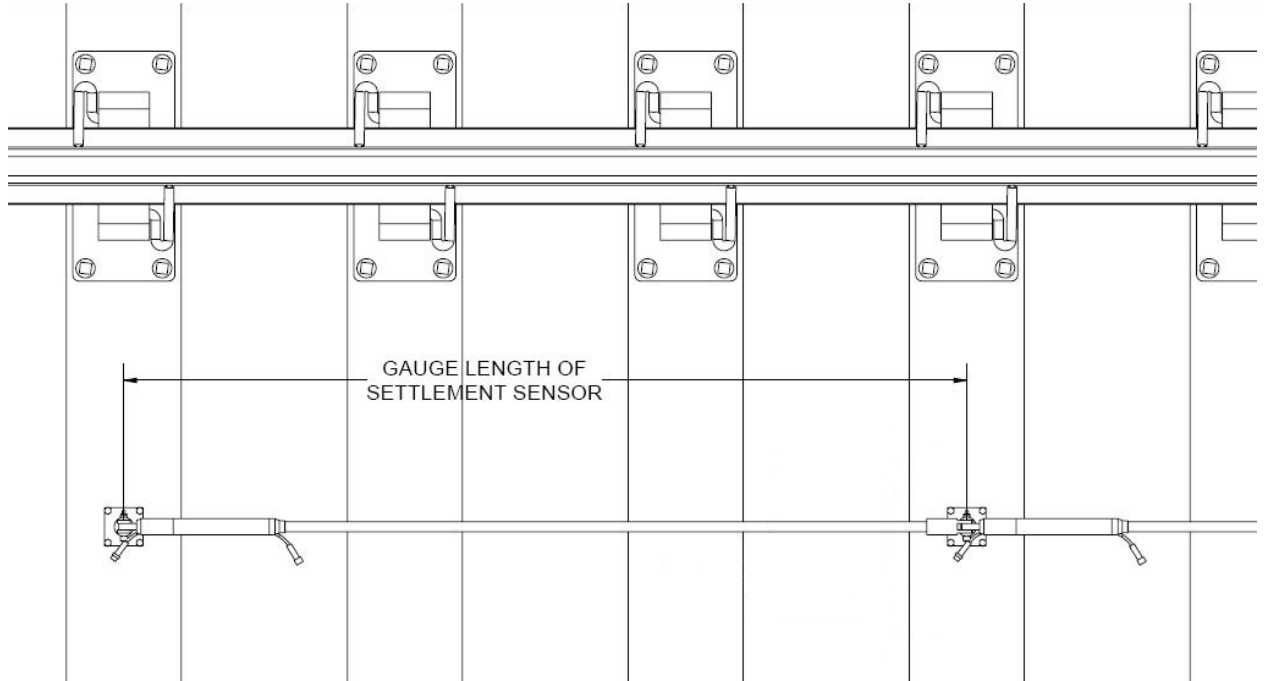

FIGURE 3-10 SETTLEMENT SENSOR GAUGE LENGTH
- 5 Measure and record the gauge length and corresponding serial number for each settlement sensor. Gauge length is the measure from pivot anchor to pivot anchor (Figure 3-10).